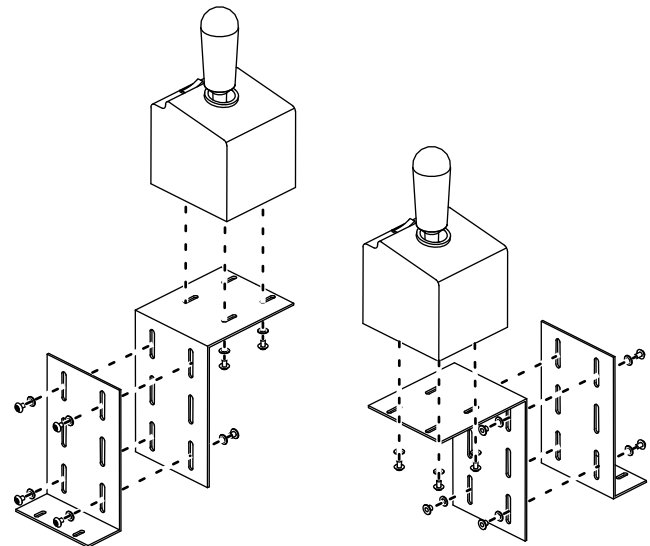

Figure 25
1. Determine the best location and configuration for your controller mounting-bracket; refer to Figure 25 for possible configurations.
2. Secure the mounting brackets to the vehicle and joystick controller using 8 to 10 bolts (#8), washers (#10), and nuts (#8) as shown in Figure 25.